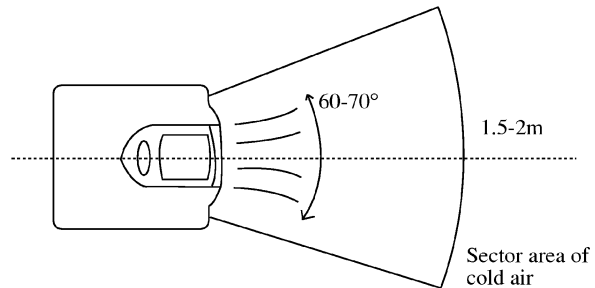

Fig.2
2. If the area of the room is larger than 20m²,such as the workshop of the factory,and the partial working post requires cool air,the machine can offer satisfying cooling effect in the sector area in front of the blowing wind.(Fig.2)